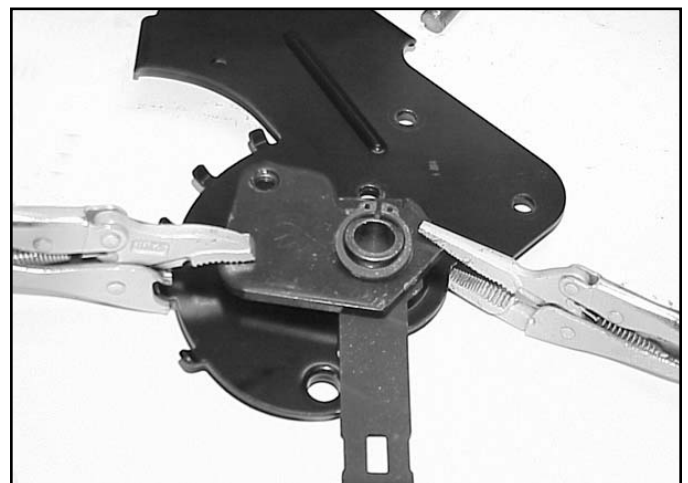

Fig 086
5. Assemble the bearing, bearing retainer, HOC plate, spring arm, and pivot arm. Use two vise grips or clamps to compress the assembly so the snap ring can be installed (Fig. 086).